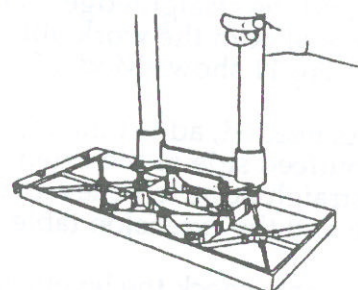

Fig.1
3. Install the extension table base on the extension table, as in Fig.1.